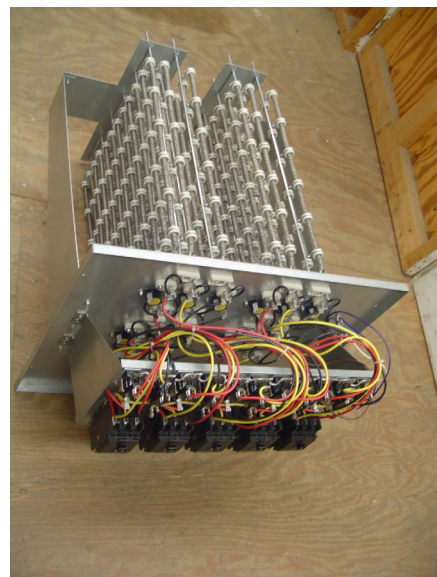

Figure 2
5. Remove EHK Heater Kit from box. Orient the heater element bracket as shown in Figure 2.